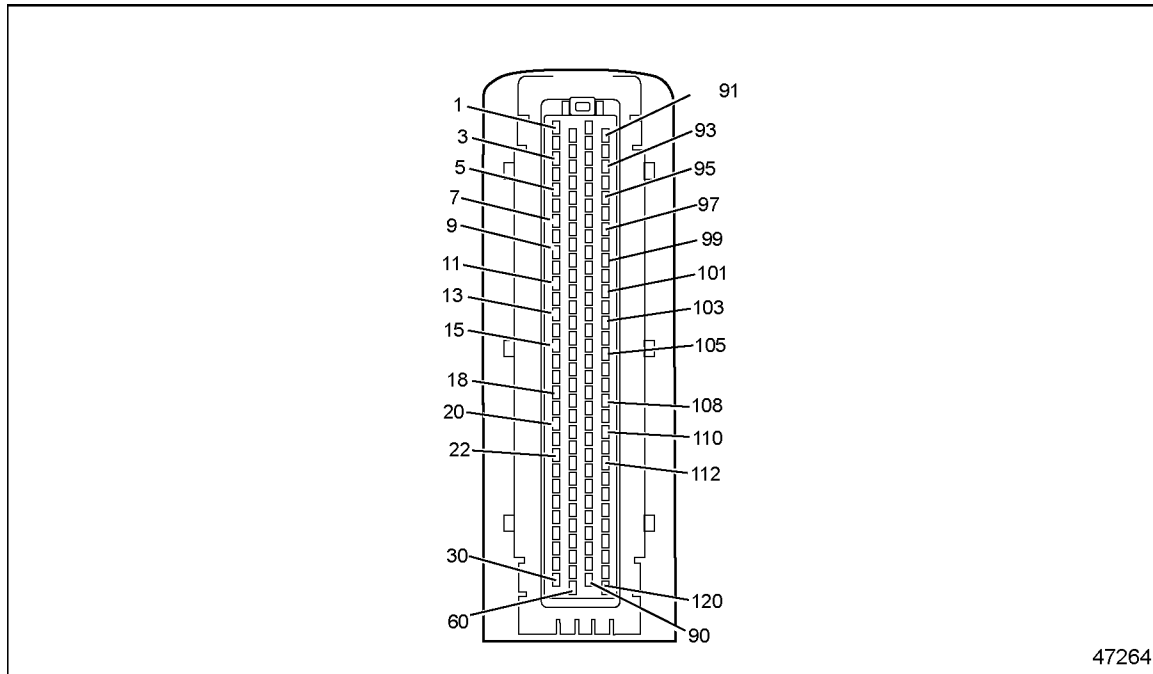

Figure 119-1 120-pin MCM Connector
- [b] If the resistance is less than 3 Ω , repair the short to power between battery positive and pin 11 of the MCM 120-pin connector. See Figure 119-1. Refer to section 119.1.1.1.